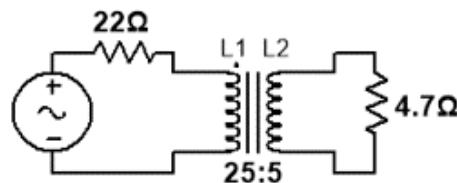

FIGURE 12. A step-down transformer with load.
- (f) For your measured secondary inductance  $L_2$  and a signal frequency of 100 kHz, what condition must the load impedance  $Z_{\text{load}}$  satisfy so that the transformer operates in the ideal regime? ( $Z_{\text{load}}$  is the impedance of any load attached across the secondary, for instance, the  $4.7\Omega$  resistor in Fig. 12.)
- (g) Use a  $4.7\Omega$  resistor to load the 5-turn transformer output winding as in Fig. 12. **Remeasure** the voltage step-down ratio. Is it different than in the unloaded case?
- (i) Qualitatively **measure** the phase relationship between the voltage across and the current through the 25-turn primary. **Remove** the  $4.7\Omega$  resistor, leaving the 5-turn output coil leads floating, and **remeasure** the phase. Finally, replace the  $4.7\Omega$  resistor in Fig. 12 with a  $0.33\mu\text{F}$  capacitor, and **remeasure** the phase. Qualitatively explain your results.
- (j) **Restore** the  $4.7\Omega$  resistor in Fig. 12. **Measure** the voltage across the  $4.7\Omega$  load resistor and **calculate** the current through the 5-turn winding. What is the **ratio** of the output current through the 5-turn secondary measured here to the input current across the 25-turn primary that you measured in part (h)? Does this current ratio agree with the predicted value?